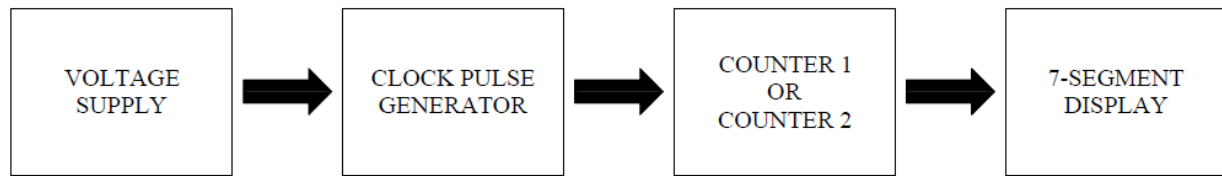

Figure 12-11: Connection of common circuitry for 12.3.2
STEP 2: Refer Figure 12-11 and study the circuit diagram and its connections. (Proteus simulation circuit diagram too is provided for user's ease of understanding the circuit and as an assistance to conduct simulations using Proteus software)